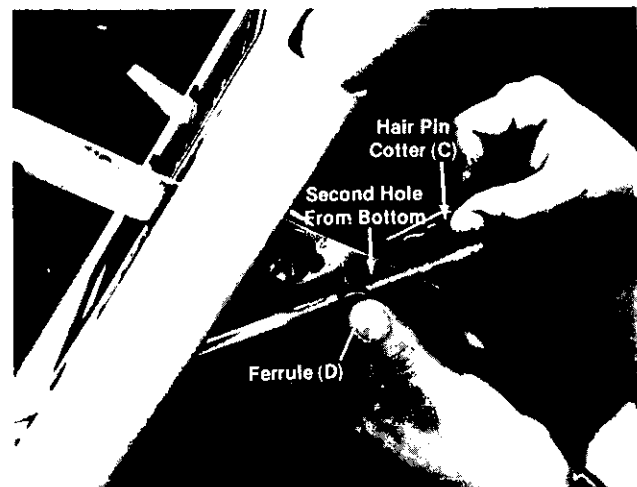

FIGURE 13.
D. Place shift lever in first gear and thread ferrule (D) on end of control rod until ferrule lines up with second hole on shift lever. See figure 13. Secure with hair pin cotter (C). See figure 13.